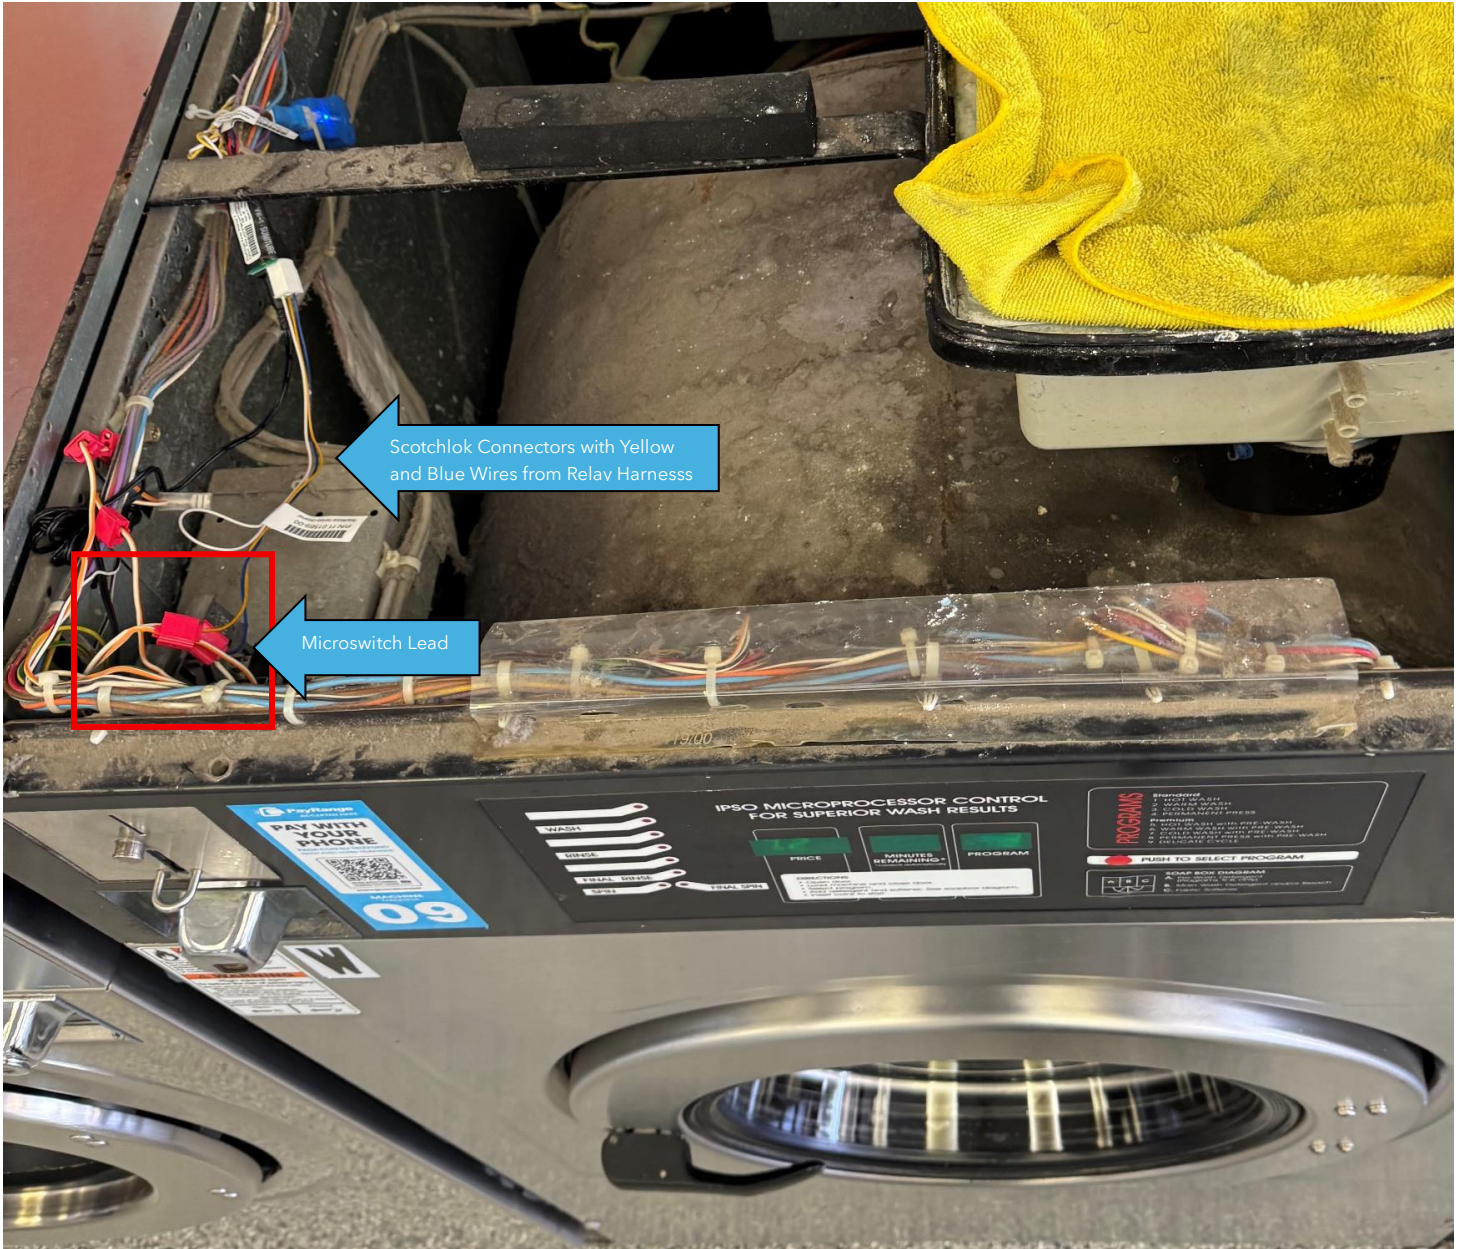

Figure 22
1. Use a Scotchlok to connect the yellow wire (pin 1) from the relay harness to either of the two microswitch wire leads, see **Figure 22**.